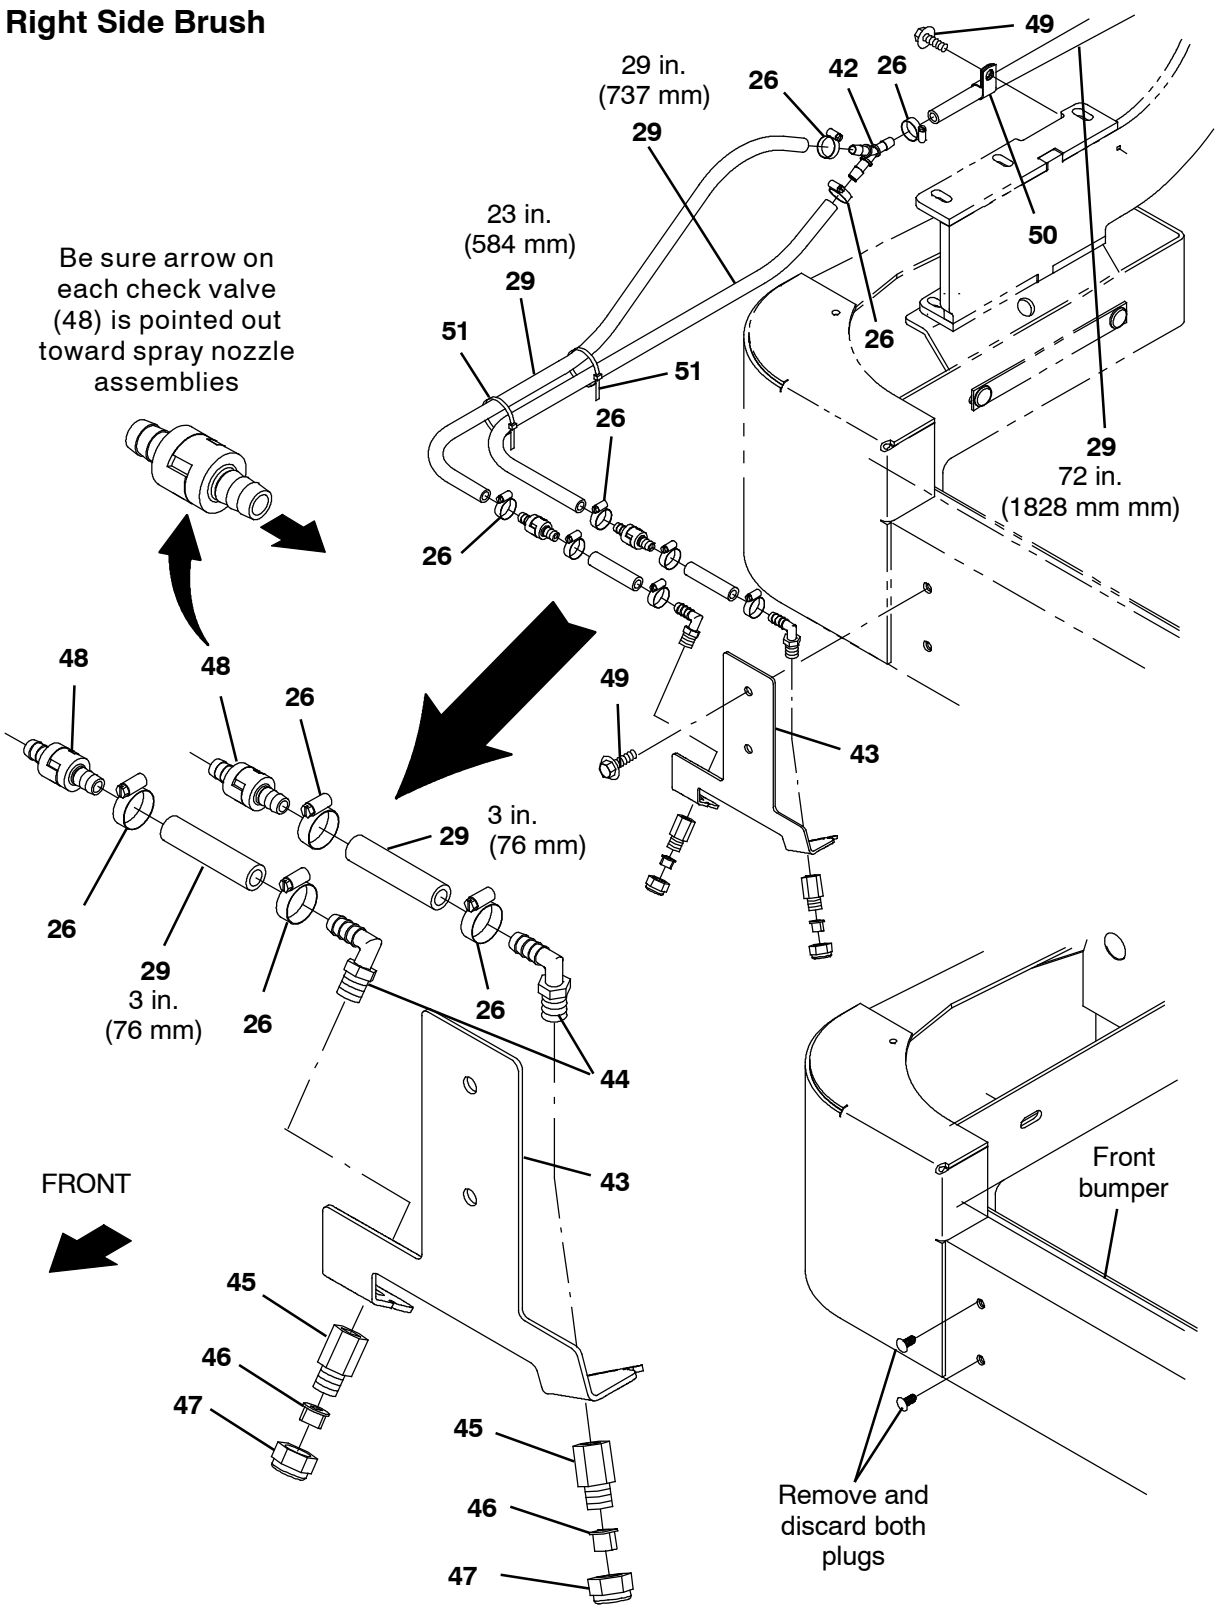
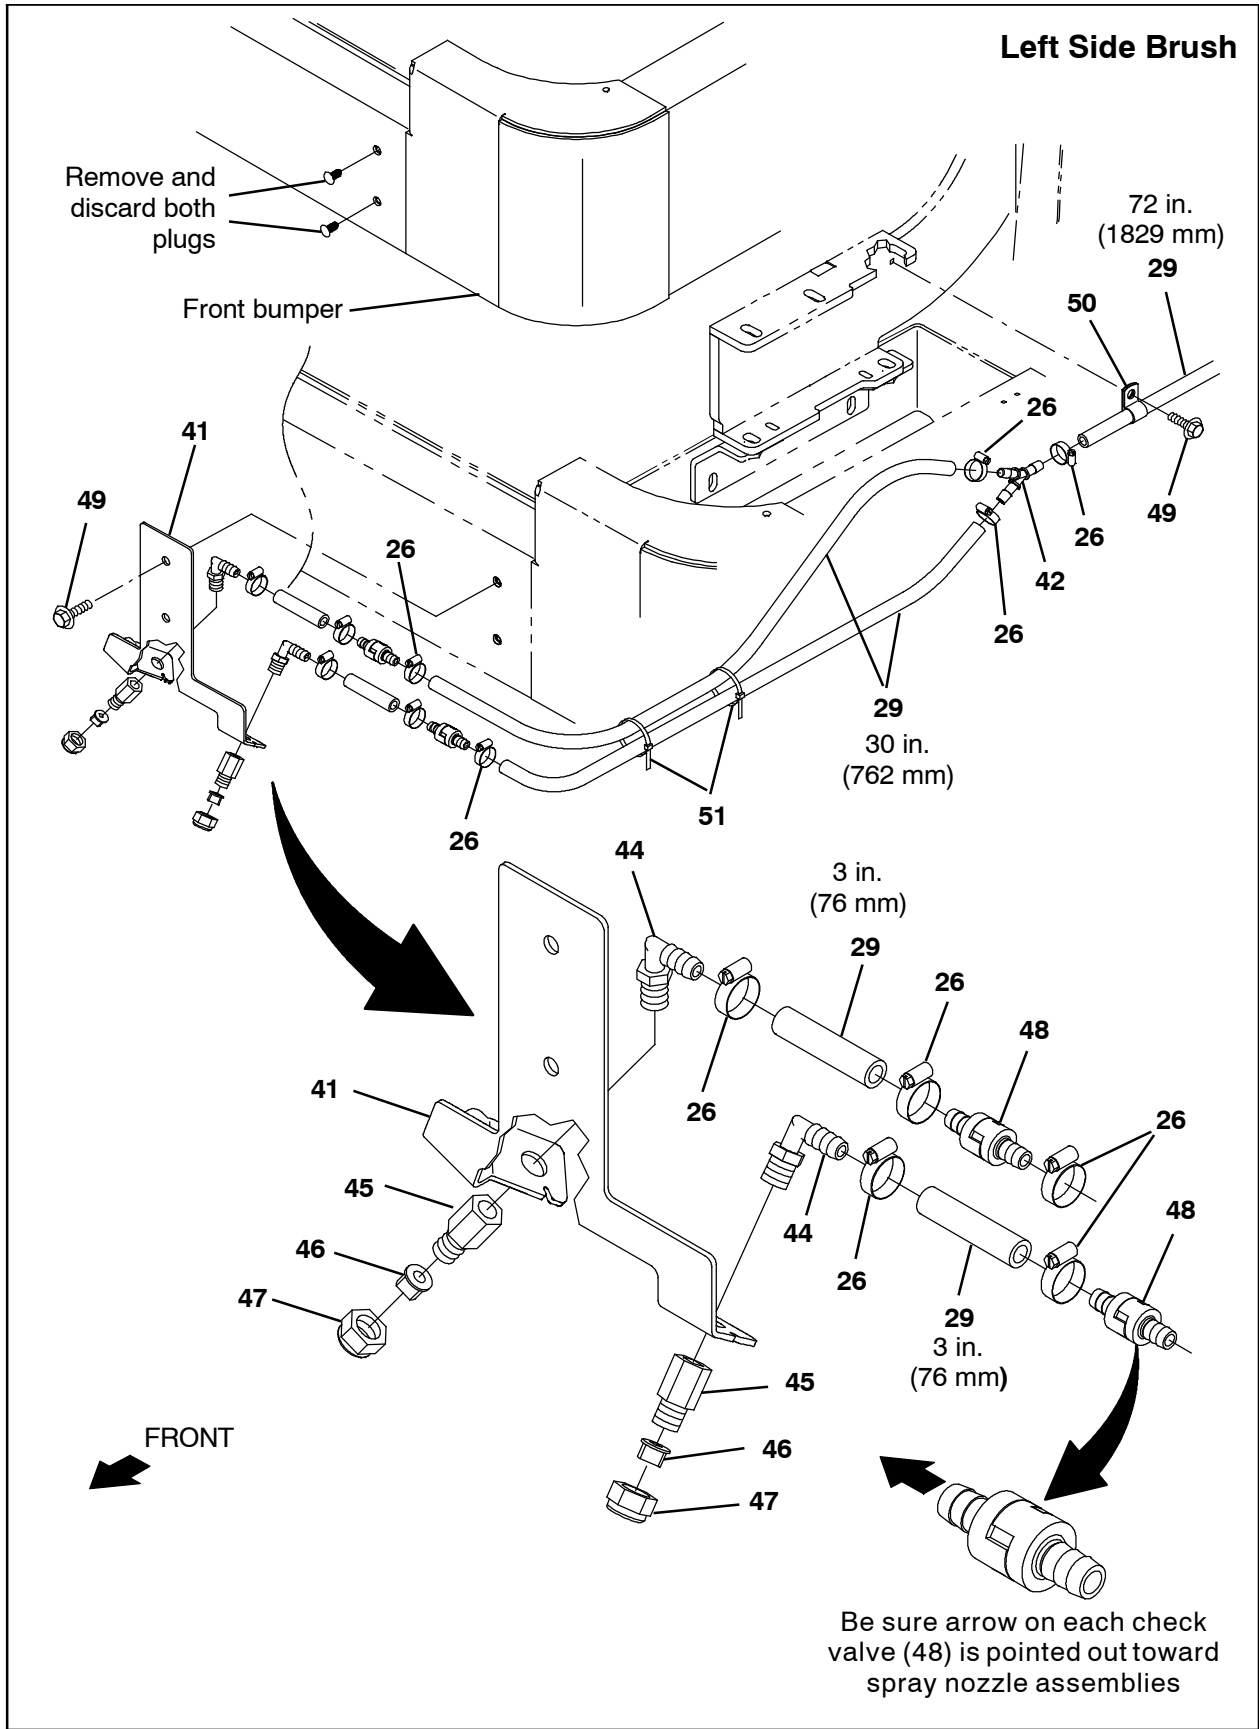

FIG. 9
FIG. 12
55. Place a spray nozzle (46) into each nozzle fitting (45) and thread a cap fitting (47) onto each nozzle fitting to secure the spray nozzle inside the fitting. Do not completely tighten the cap fittings. (Fig. 9 / Fig. 12)
56. Insert two plastic elbow fittings (44) into the right dual nozzle bracket (43) and left dual nozzle bracket (41) and tighten a spray nozzle assembly assembled in the previous step onto each elbow fitting. (Fig. 9 / Fig. 12)
57. Cut four 3 in. (76 mm) sections of PVC hose (29).
58. Use a hose clamp (26) to connect each 3 in. (76 mm) PVC hose cut in the previous step to the plastic elbow fittings (44) installed on the right dual nozzle bracket (43) and the left dual nozzle bracket (41). (Fig. 9 / Fig. 12)
59. Use a hose clamp (26) to connect a check valve (48) onto the other end of each 3 in. (76 mm) PVC hose. (Fig. 9 / Fig. 12)
60. Cut a 29 in. (737 mm) and 23 in. (584 mm) length of PVC hose (29).
61. Use a hose clamp (26) to connect the 29 in. (737 mm) and 23 in. (584 mm) PVC hoses (29) to the check valves (48) on the right dual nozzle bracket (43). (Fig. 9)
62. Cut two 30 in. (762 mm) lengths of PVC hose (29).
63. Use a hose clamp (26) to connect the 30 in. (762 mm) PVC hoses (29) to the check valves (48) on the left dual nozzle bracket (41). (Fig. 12)
65. Use two SEMS M8 hex screws (49) to install the right dual nozzle mounting bracket (43) and left dual nozzle bracket (41) onto the machine. (Fig. 9 / Fig. 12)
66. Remove the cap fittings (47) from the each nozzle fitting (45). Set the spray nozzle (46) aside. (Fig. 9 / Fig. 12)
67. Apply thread sealant onto the threads of each nozzle fitting (45). (Fig. 9 / Fig. 12)
68. Reinstall the cap fittings (47) and spray nozzles (46) into each nozzle fitting (45). Do not tighten the cap fittings (47). (Fig. 9 / Fig. 12)
71. Use a hose clamp (26) to connect a y-fitting (42) to each 72 in. (1829 mm) PVC hose (29). (Fig. 9 / Fig. 12)
72. Use cable clamps (26) to connect the 29 in. (737 mm) and 23 in. (584 mm) PVC hoses (29) to the y-fitting (42). (Fig. 9)
73. Use cable clamps (26) to connect each 30 in. (762 mm) PVC hose (29) to the y-fitting (42). (Fig. 12)
74. Arrange the 29 in. (737 mm) 23 in. (584 mm), and 30 in. (762 mm) PVC hoses away from the side brush linkage (moving parts) and use two cable ties (51) to secure the PVC hoses to the machine, away from any moving parts. (Fig. 9 / Fig. 12)
75. Use a cable clamp (50) and SEMS M8 hex screw (49) to secure both 72 in. (1829 mm) PVC hoses (29) to the machine. (Fig. 9 / Fig. 12)